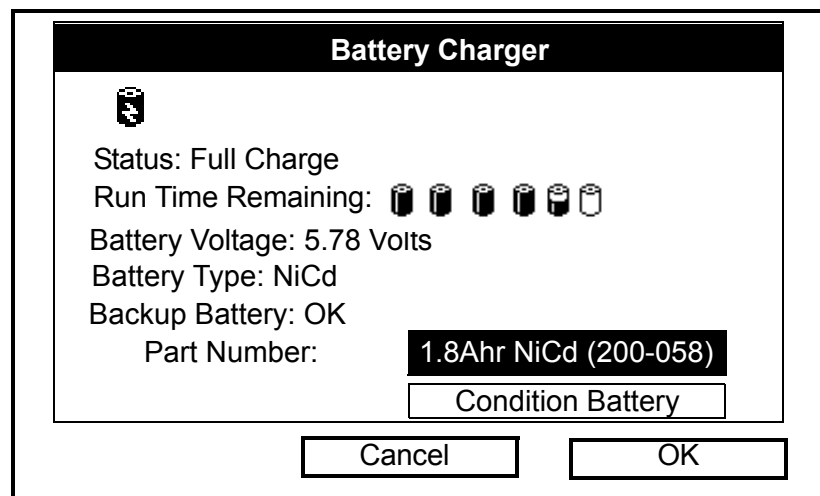

Figure 3-13: The Battery Charger Window
2. Scroll to the *Battery* option and press [ENTER]. The *Battery Charger* window opens (see Figure 3-13 below).